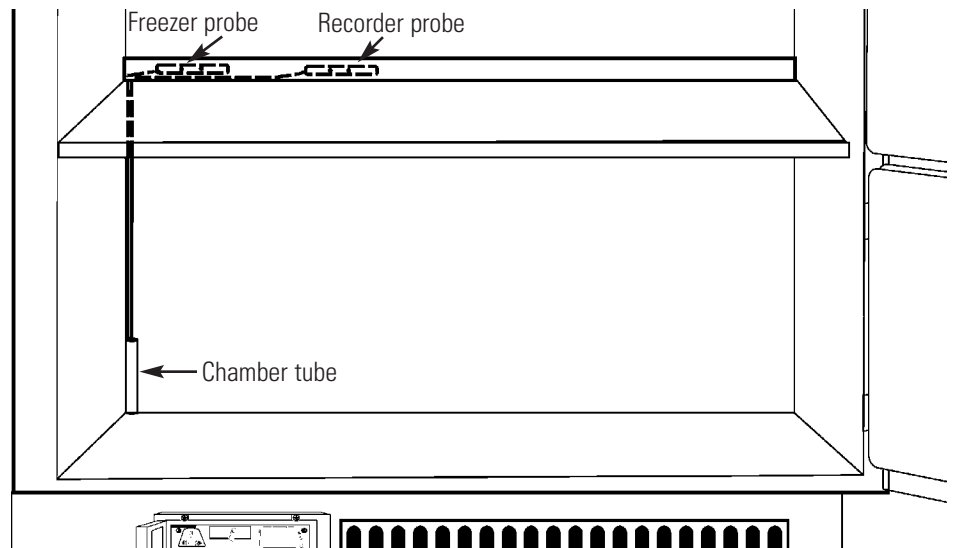

Figure 2-6. Recorder Probe Placement
2. Temperature probes for the recorder are located in the left front corner of the freezer chamber (Figure 2-6).